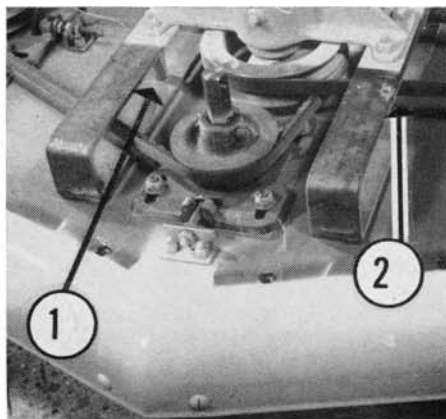

Figure 15
2. Remove the right Drive Mount Support Sleeve, 1 in Figure 15. To do this, elevate the Mower sufficiently to enable you to hold the Sleeve Bolt on the underside of the Deck. Remove the nut from the Sleeve Bolt, tap the Bolt free of the Mower, and remove the Sleeve.
4. Remove the left Drive Mount Support Sleeve, 2 in Figure 15.